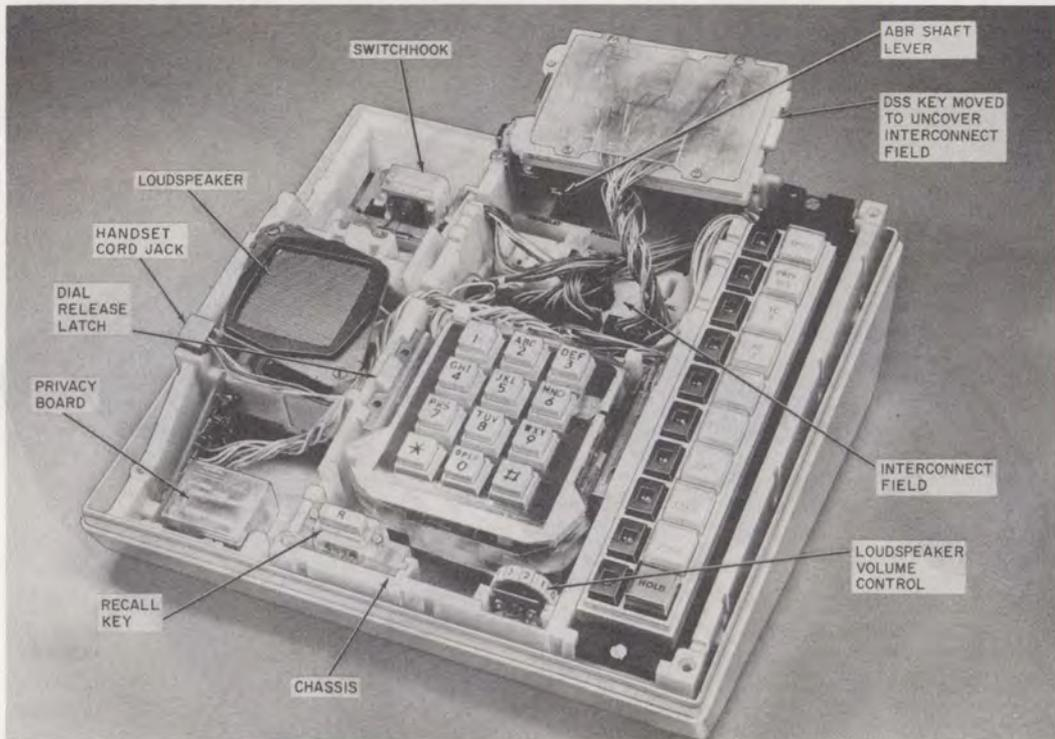
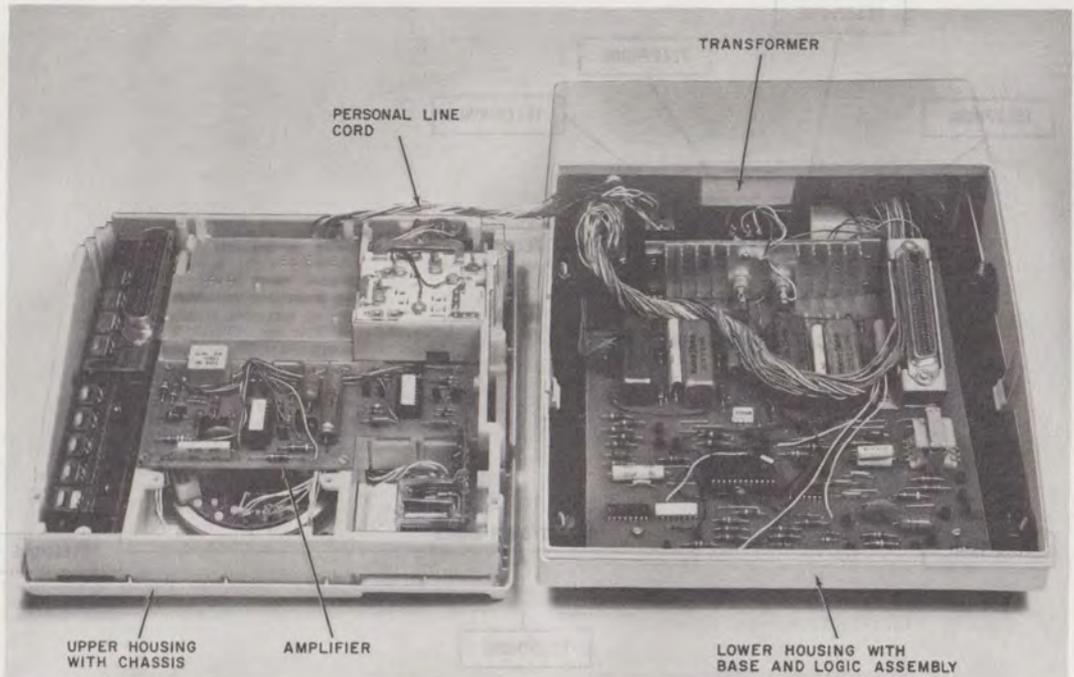

Fig. 5—Basic Satellite Desk Set With Faceplate and Upper Housing Removed
Fig. 6—Primary Set Disassembled
**2.06** The internal arrangement of the telephones is based on the use of a molded plastic chassis to which the components of the set are attached and an electrical interconnect field into which the components are plugged (Fig. 5). The interconnect field also contains positions for plugging in optional features and switches A through H for adapting the set to options. Outside connections are made by way of the set mounting cord or separate cords for such optional features as personal lines, 4A speakerphone, and repertory dialing. In primary sets (Fig. 6), the mounting cord plugs into a wiring harness which distributes leads to the line key and the control logic board. In the other desk-type sets, the mounting cord plugs directly into the line key. The system connector cable is intended to be plugged directly into the wall sets without the use of mounting cords, which are not supplied with wall sets.
**2.07** Mounted on the base of each primary set is a logic board containing control and power circuitry for two CO/PBX lines and one intercom path, and a transformer for supplying ac power to the logic board (Fig. 6). Up to seven satellite telephones can derive their power from one primary set. Each primary set contains a polarity guard circuit which prevents battery reversals on the CO/PBX lines from interfering with TOUCH-TONE dial operation and multiline conferencing.